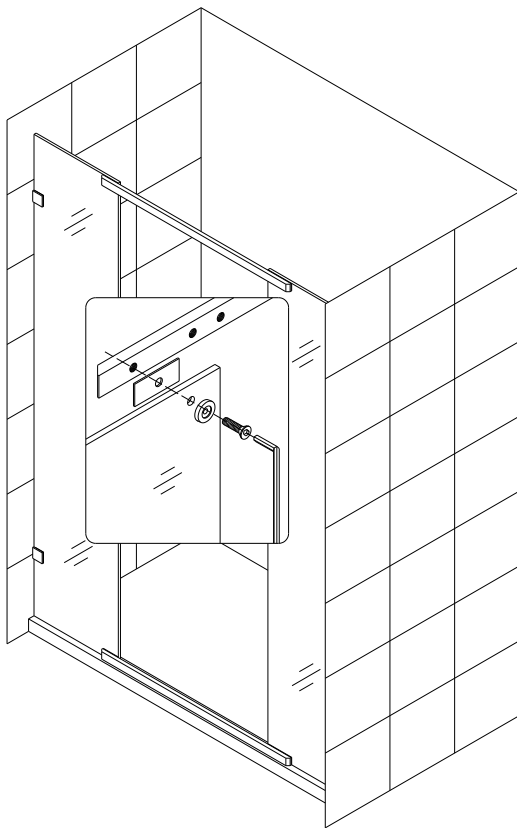

Fig. 7
8. Find one of the **Pivot bars (03)** and attach each end of it onto the top section of each of the stationary glass panels using **Hex socket bolts M8×22 (13)** with the **Decorative ring (14)** slid on, and tighten it with the **Allen key (15)** supplied. Remember to put the **Rubber gaskets (11)** between glass and metal to avoid erosive contact. Repeat it to mount the second pivot bar at the bottom of the glass. See fig. 7 for details.